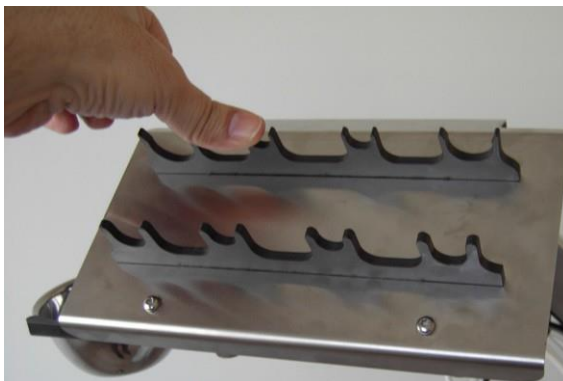

Figure 3-17. Pushing the Upper Handpiece Holder in
4. Push the handpiece holder in, as shown in Figure 3-17.